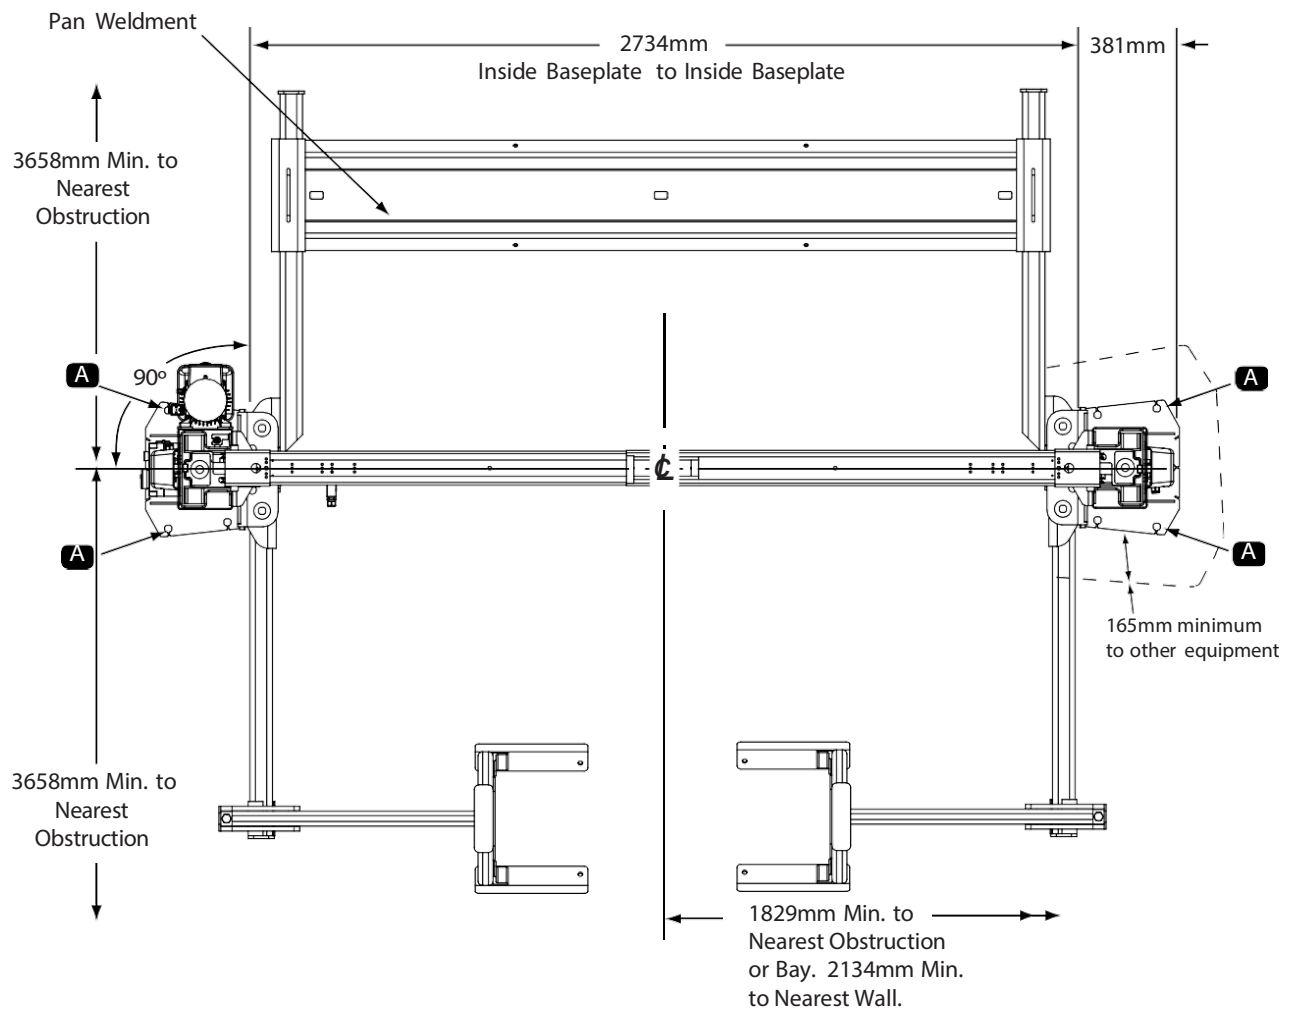

Fig. 1
Use architects plan when available to locate lift. Fig. 1 shows dimensions of a typical bay layout.
Position columns in the bay using dimensions shown in Fig. 1. With column lying on the floor, two people can lift the top of the column and walk towards the base. As the column approaches vertical, one of the two people should move to the opposite side of the column and assist in slowly setting the column flat on its base. Both column base plate backs must be square on center line of lift. Notches are cut into each base plate to indicate center line of lift. Using appropriate equipment, raise carriage to first latch position. Be sure locking latch is securely engaged.
- 5c.** To assure Left and Right Rails are parallel, install Pan Weldment, Fig. 1, at one end and slide in towards carriage. If Pan binds when sliding, Rails may be out of alignment. Recheck. Once columns are in position with Rails parallel, drill and anchor columns using ONLY the corner anchor points indicated in Fig. 1 by the letter (A) using appropriate drilling and anchoring procedures (See Section 6a **Concrete and Anchoring**). After both columns have been anchored, Pan Weldment and Rails may be removed in order to complete the lift installation. Finish drilling and anchoring of remaining anchors, see section 6a.